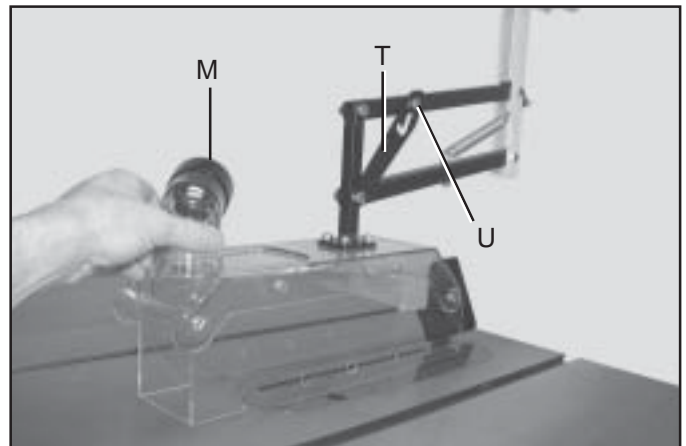
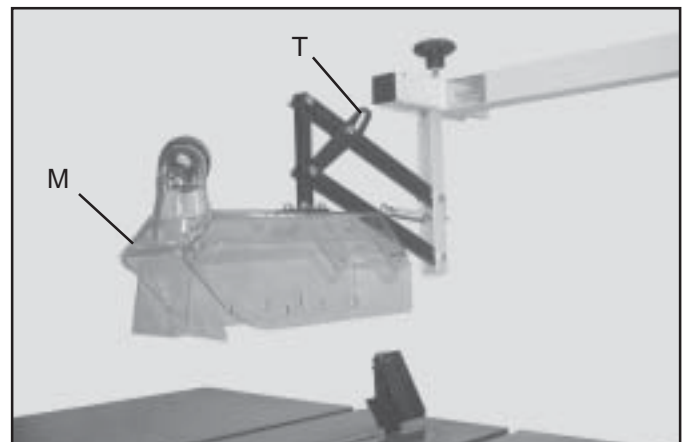

Fig. 23
Fig. 24
22. To raise the guard basket (M) Fig. 23, above the saw blade, simply lift up the hood by the dust port until guard catch (T) engages hex head bolt (U) as shown in Fig 24. It may be necessary to loosen hex head bolt (U) to allow the guard catch (T) to fall back to engage bolt (U).
23. To lower the guard basket assembly (M) pull forward on guard catch (T) Figs. 24 & 25.